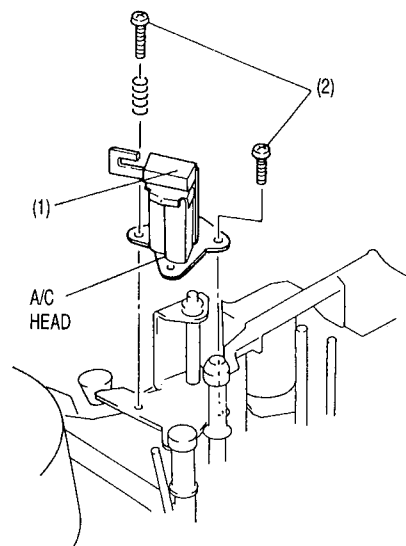

Fig. 3-7
- 1) Disconnect the connector (1). (See Fig. 3-7)
- 2) Remove 2 screws (2).